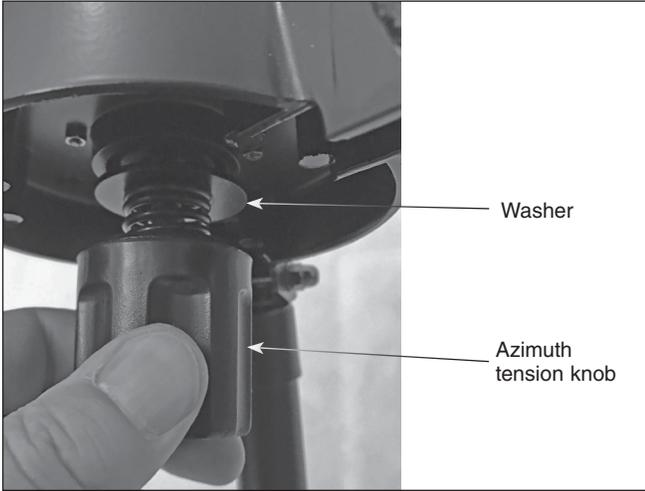

Figure 4. Secure the altazimuth arm to the tripod with the washer and azimuth tension knob.
- in the tripod's mounting platform. Then replace the washer and azimuth tension knob to secure the arm in place (**Figure 4**).
4. Attach the two micro-motion cables (D). The shorter of the two is usually preferred for the altitude axis and the longer one for the azimuth axis. Loosen the thumbscrew at the end of the cable, then line up the cable end so that the thumbscrew is